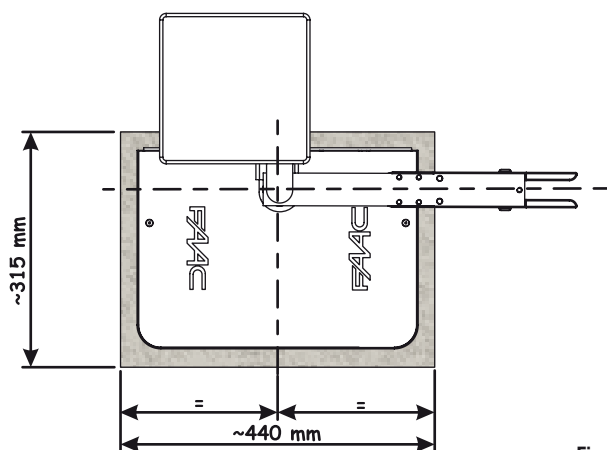

Fig. 6c
*Use of the gear plate for 180° opening allows the housing case to be embedded in any position. The alignment of the pin present on the case with the leaf's axis of rotation must be respected at all times (Fig. 6c).*